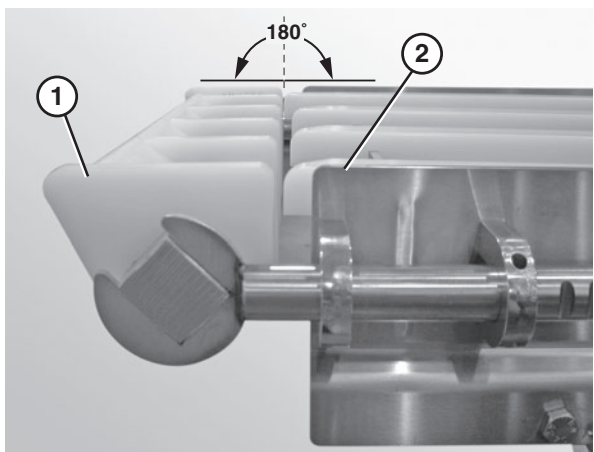

Figure 29
- Ensure that the nose bar pucks (Figure 29, item 1) are in line with the conveyor frame (Figure 29, item 2).